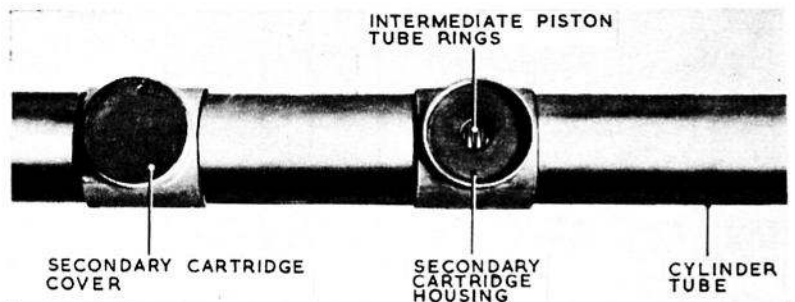

Fig. 12. Examining intermediate piston tube rings
12. (1) Gently extend the intermediate piston tube until the piston rings can be seen through one of the secondary cartridge housings (fig. 12).